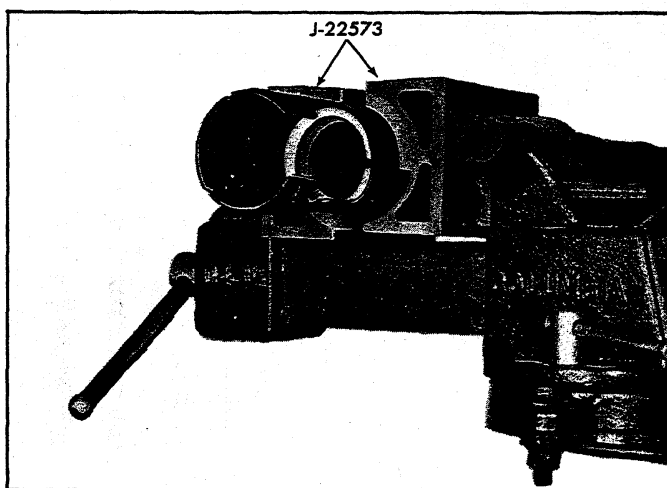

Fig. 26—Column Secured in Bench Vise
CAUTION: Secure column in bench vise for service one of two ways shown in Figure 26. Clamping column in vise in any other manner
2. Clamp column in a bench vise as shown in Figure 26.
3. Slide upper bearing preload spring and cancelling cam off end of shaft (fig. 26).
CAUTION: Secure column in bench vise for service one of two ways shown in Figure 26. Clamping column in vise in any other manner will damage the column. If support fixture J-22573 is not used, frequently check position of column in vise jaws to insure column is not working free of jaws.